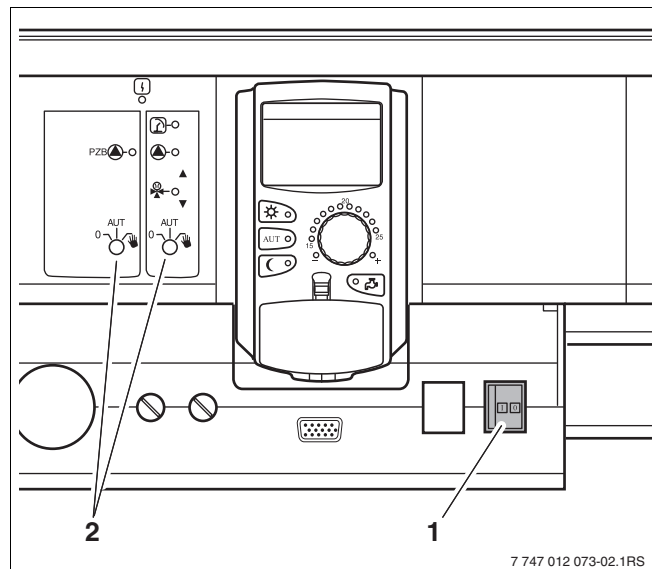

Fig. 8 ON/OFF switch
- Check that the control unit ON/OFF switch (→ Fig. 8, [1]) and the manual switches on the fitted modules (→ Fig. 8, [2]) are set to "I" and "AUT".
- Switch the control unit on by setting the ON/OFF switch to "I" (→ Fig. 8, [1]).
- Switch the control unit off by setting the ON/OFF switch to "0" (→ Fig. 8, [1]).